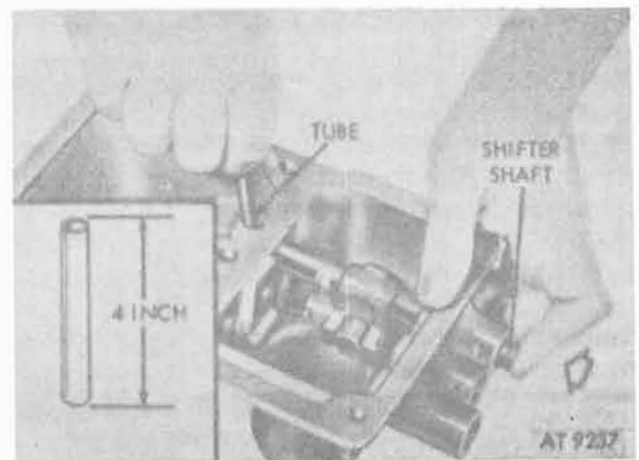

Figure 8-104. Depressing detent balls.
- e. Using a piece of $\frac{1}{4}$ inch tube, depress detent ball and slide shaft into position (fig. 8-104).